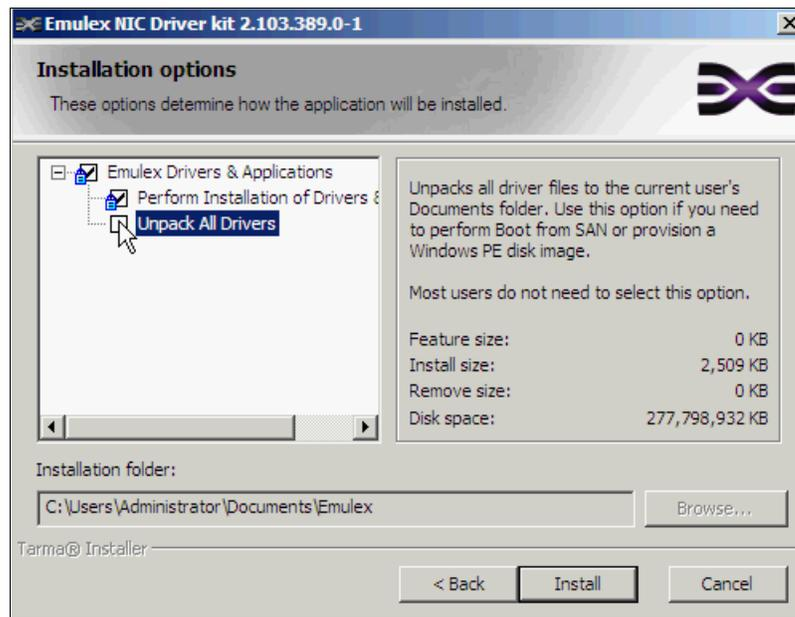

Figure 10-64 Installation options window
3. If you plan to use boot from SAN or to create a Windows Preinstallation Environment (PE) disk image, in the Installation options display (Figure 10-64), select the **Unpack All Drivers**. For this example, we did not select **Unpack All Drivers**. Click **Install**.